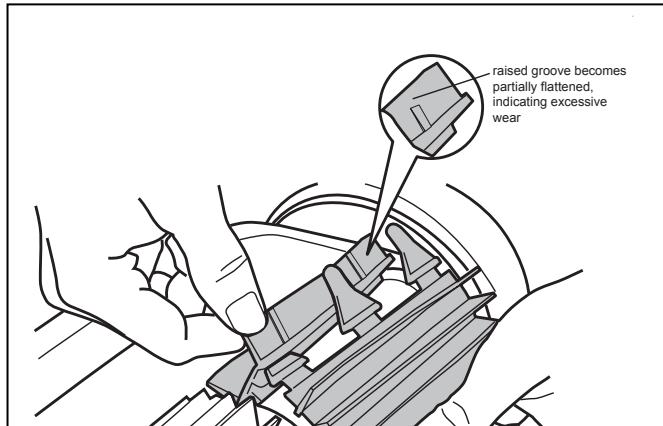

Figure 20. Worn Brush Indicator
The cleaner is fitted with a brush in front. There are "wear" indicators (Figure 20) on the brush. To maintain cleaner performance at its best, replace the brush as soon as the wear indicator has been reached. Zodiac recommends that you replace the brushes every two (2) years.